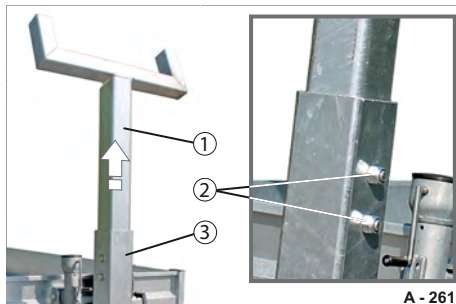

Fig. 197 U-tube fork
- Release the bolt connection (Fig. 197/2) on the mount.
- Pull out the U-tube fork (Fig. 197/1) in an upward direction.